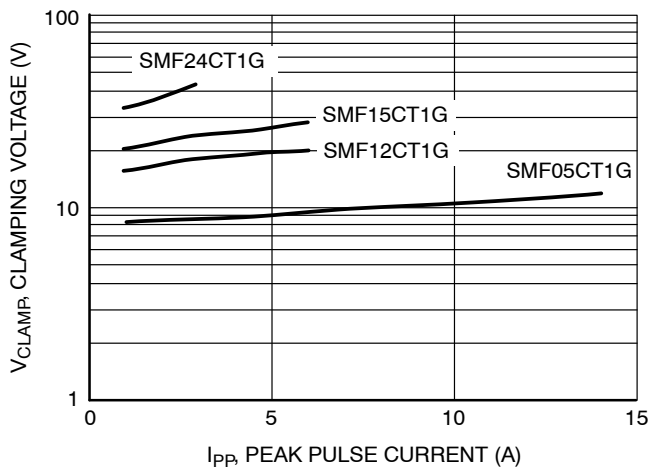

Figure 3. Clamping Voltage vs Peak Pulse Current
1. Nonrepetitive current pulse per Figure 3.